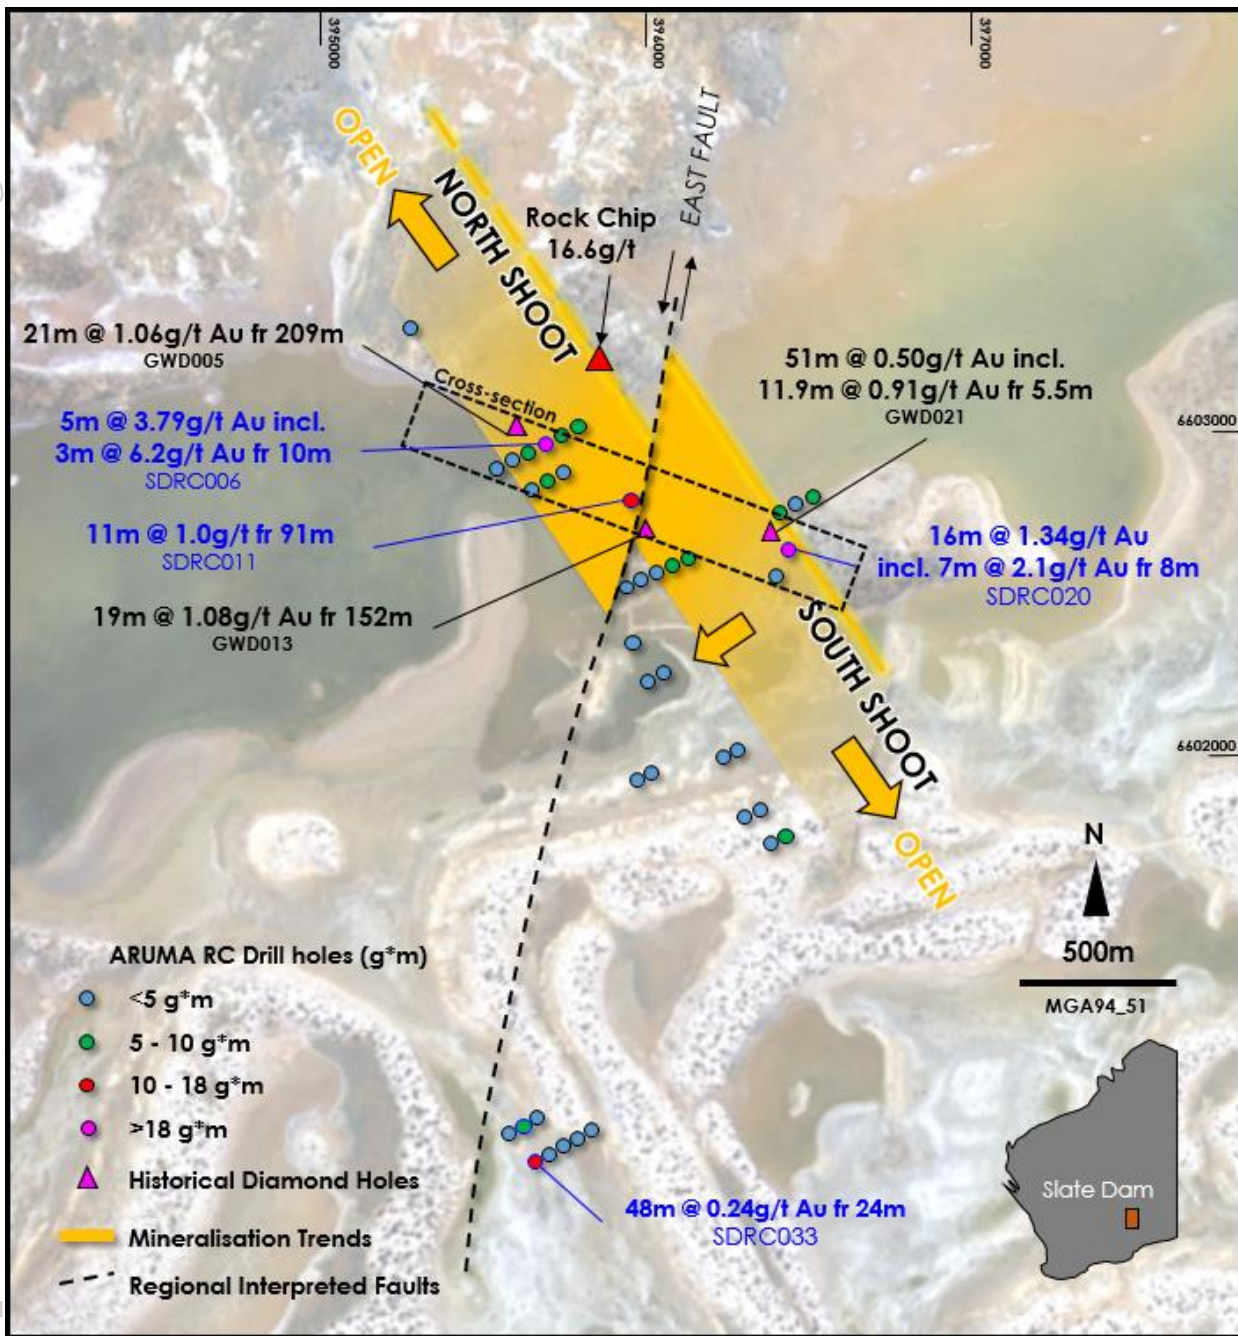

Figure 1. Overview of Slate Dam RC Drilling Results, with major gold shoots identified.
- Two major gold shoots, which host significant gold mineralisation, extend for in excess of 500 metres along strike to the north (North Shoot) and for in excess of 500 metres along strike to the south (South Shoot), both of which remain open in all directions (See Figure 1); and